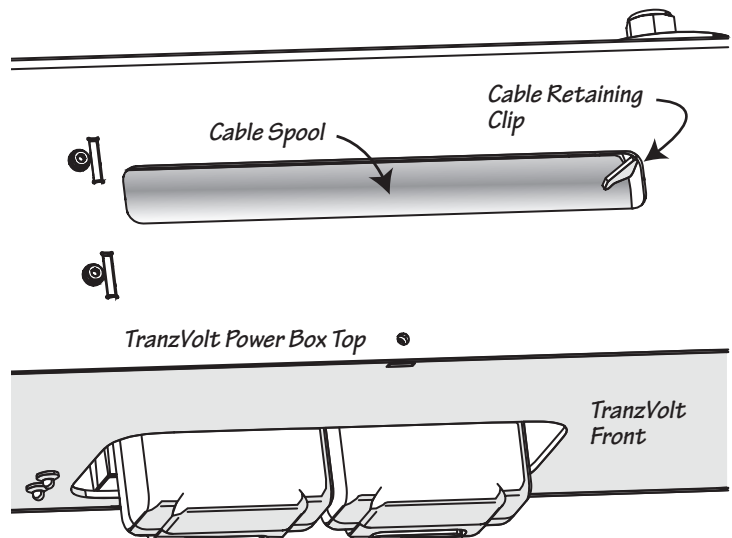

Fig. 15-2
- Working from the front - look down, through the cable slot, locate the cable spool. See Fig. 15-2.
- Release the UP button when the cable retaining clip (located on the right side of the spool) is visible and positioned towards to top of the power box. Fig. 15-2.